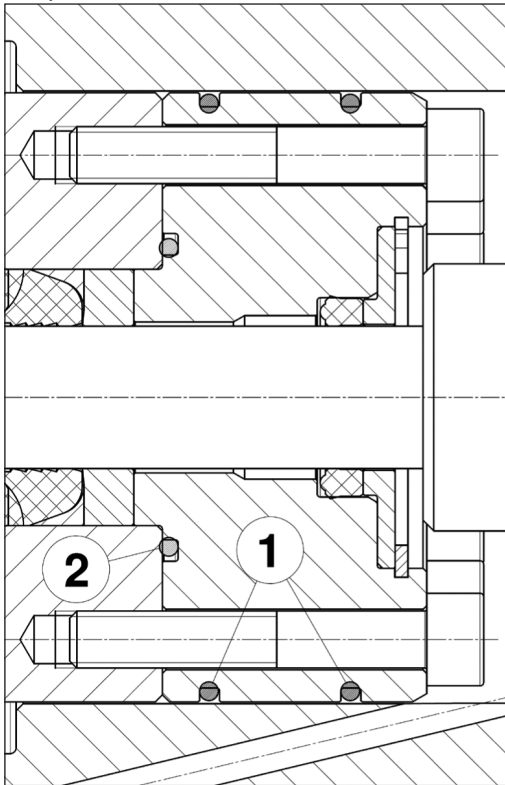
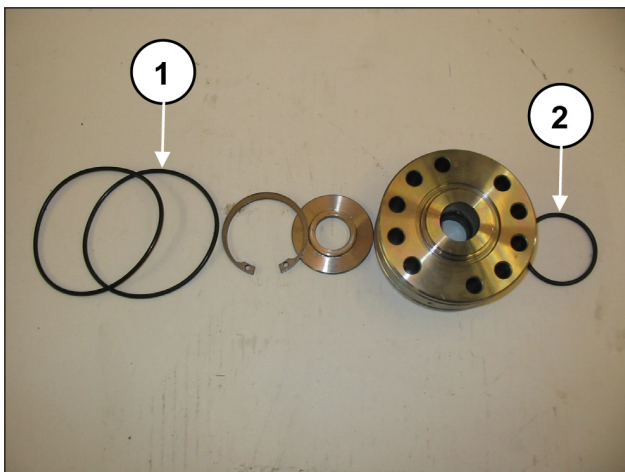

Fig. 141
Fig. 142
Install the seal support unit (Fig. 141 and Fig. 142) replacing components ① and ②.